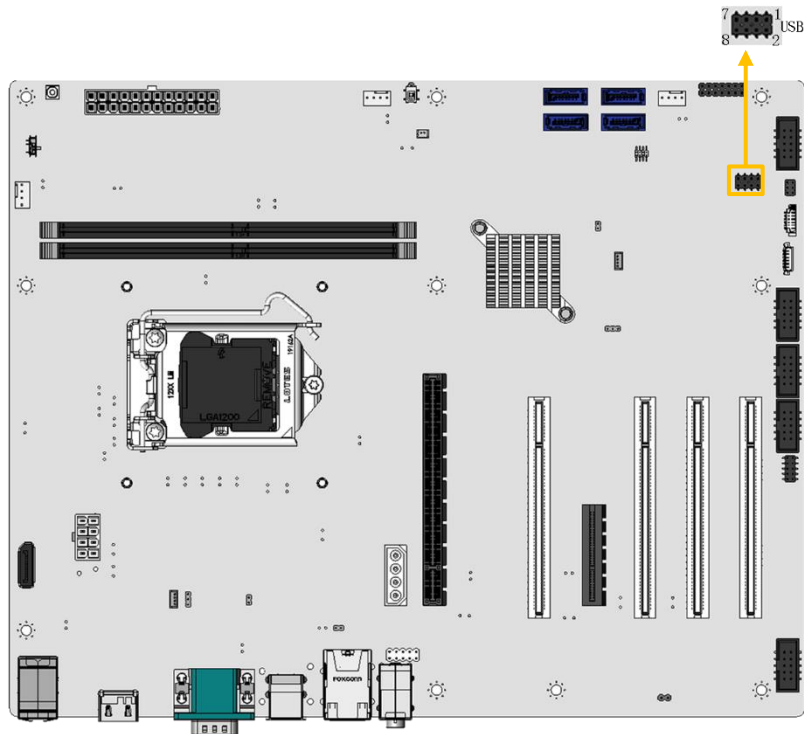

Figure 3-28: Internal USB 2.0 Connector Locations
- CN Location:** See Figure 3-28